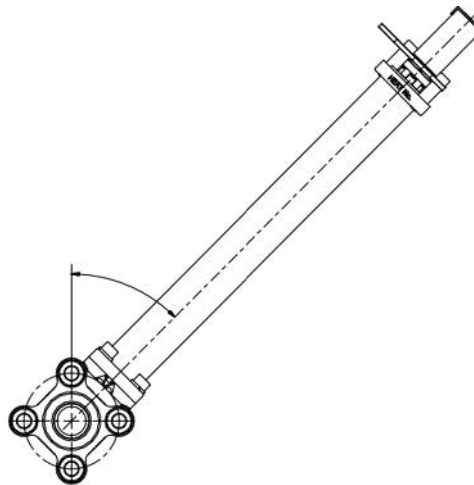

Figure 2. Valve tilting limitations
2.1.2. The function of the bonnet of a cryogenic valve is to allow proper heat transfer, and steep temperature gradient along the bonnet's length between cryogenic temperatures as low as -196°C / -320°F at the valve center line, and a temperature of around -10°C / 14°F at the cryogenic ISO top pad. This feature allows the soft parts of the valve gland packing to remain ductile. According to the BS 6364 standard a 10 inch (250 mm) cryogenic bonnet shall be installed in the vertical position or inclined up to 45° from the vertical axis as shown in figure 2. For confined spaces and systems characterized by high vibration, Microfinish offers a 6 inch (150 mm) bonnet, not compliant with BS 6364. A cryogenic valve with 6-inch bonnet shall be installed only in the vertical position.